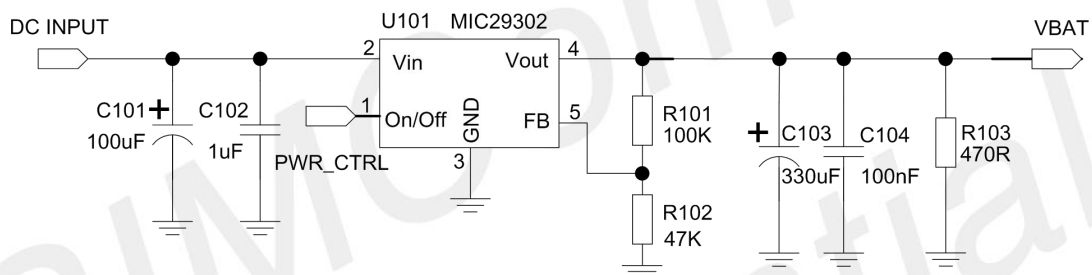

Figure 5: LDO power supply reference circuit
If the DC input voltage is +5V and customers do not care about the power efficiency, a high-current low-dropout regulator is recommended. Figure 5 is the reference design.
1. To ensure a proper behavior of the regulator under light load, an extra minimum load (R103 in Figure 5) is required, because the current SIM8905 consumed is very small in sleep mode and power off mode. For more details about minimum load, please refer to specification of MIC29302.